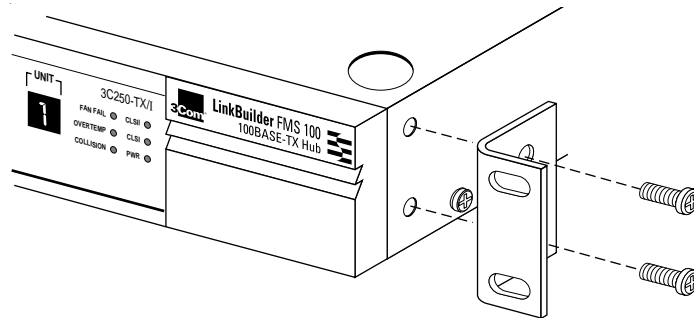

Figure 2-1 Attaching a Bracket for Rack Mounting
- 2 Position a bracket over the mounting holes on one side of the unit, as shown in Figure 2-1.